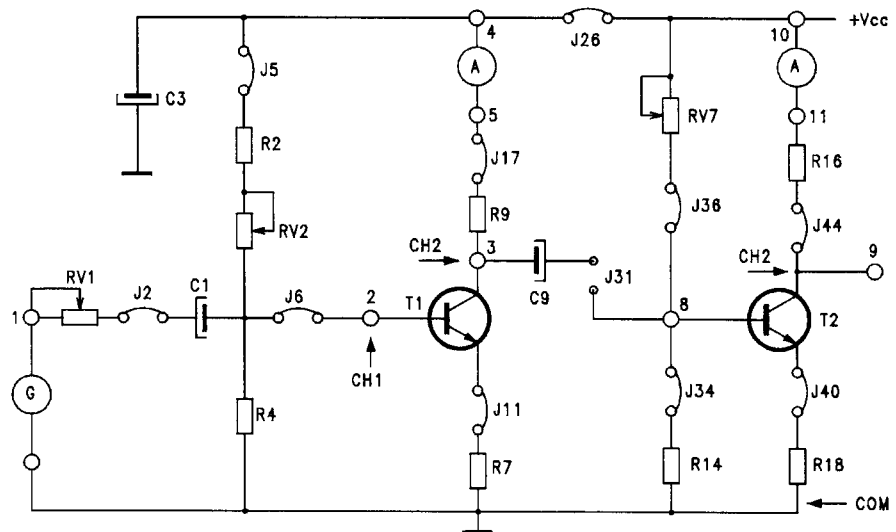

fig. B23.3
- Insert jumpers J2, J5, J6, J11, J17, J26, J34, J36, J40, J44 and connect the instruments to produce the circuit of figure B23.3.